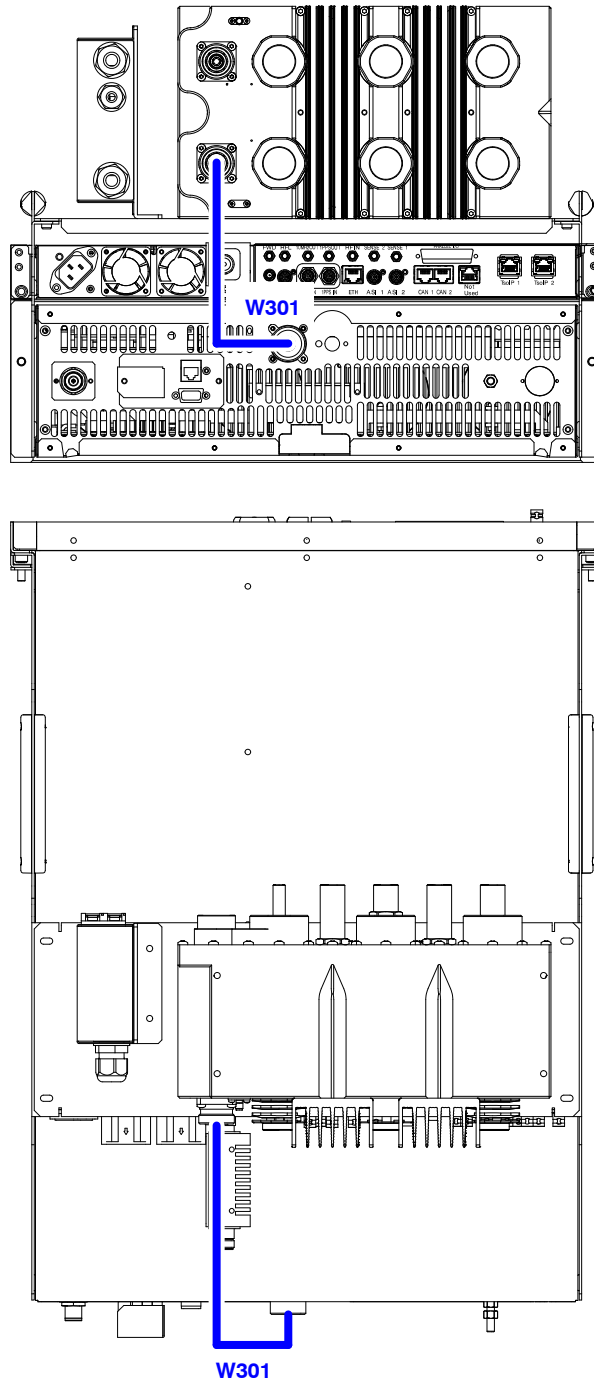

Fig. 2.2 (2/2) – Mounting the filter on the frame
2.2.1 Mounting the filter on the frame (refer to Fig. 2.2)